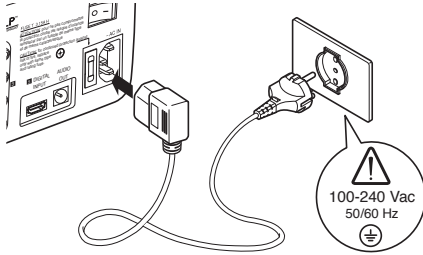

Fig. 3
- Connect the projector to a power supply with a nominal voltage within the following values: 100-240 Vac, 50/60 Hz, earthed (*Fig. 3*).